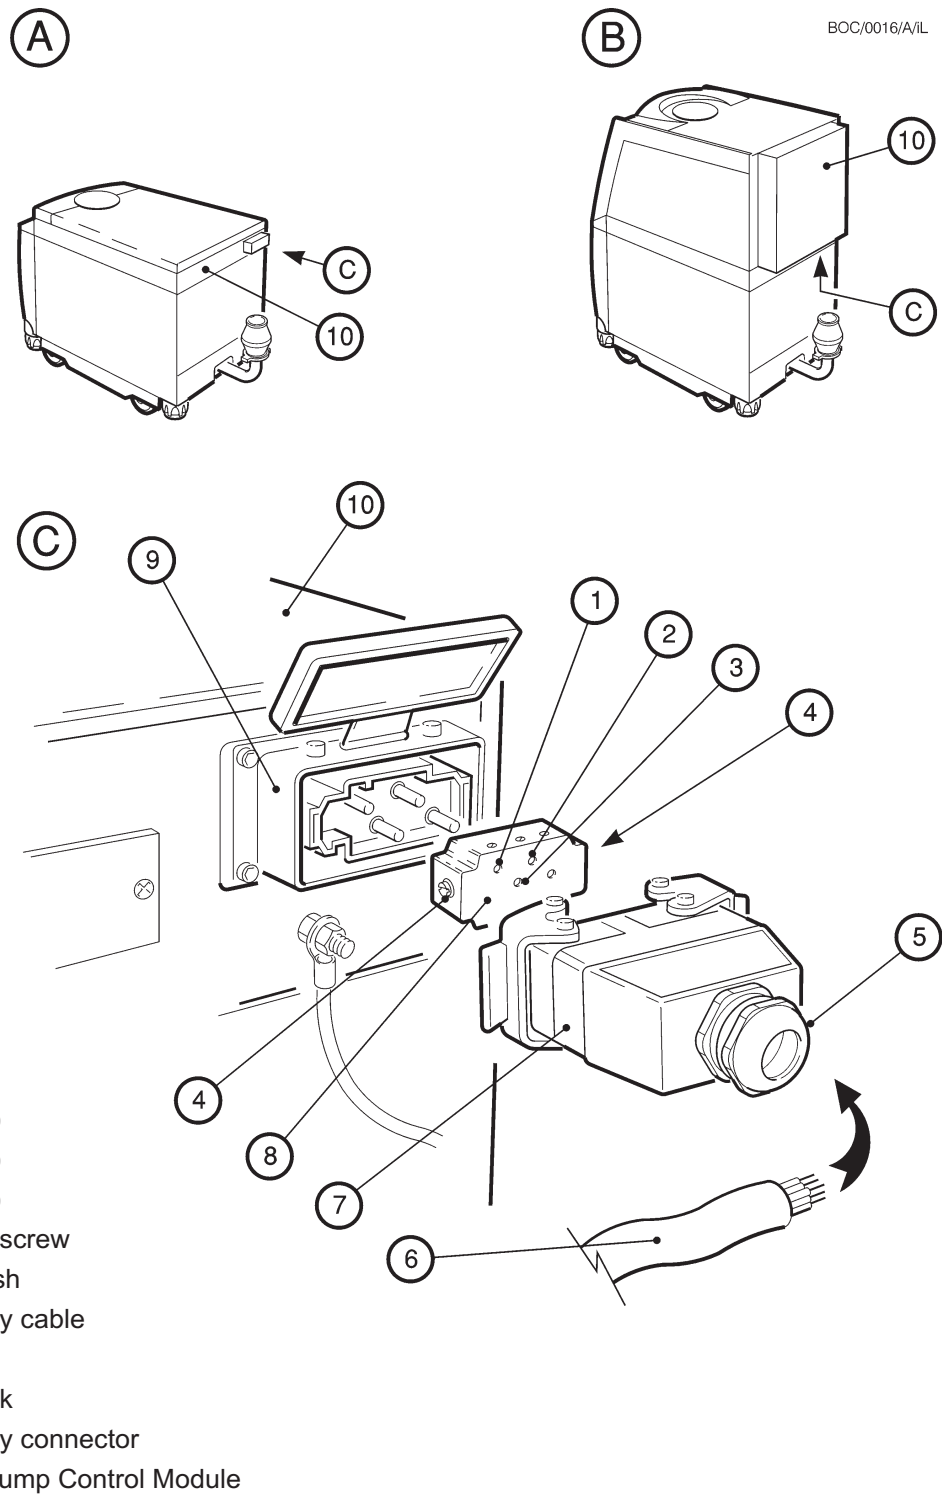

Figure 3-10 - Connect the electrical supply cable to the connector mating-half
1. Refer to Figure 3-10. Remove the connector block (8) from the hood (7) of the mating-half electrical supply connector.
5. Connect the cable phase wires to the pins of the connector block (8), as shown in Table 3-4.
6. Connect the earth (ground) wire of the cable to one of the two earth (ground) screws (4) on the side of the connector block (8).
7. Refit the connector block (8) into the connector hood assembly (7), and tighten the gland locking nut (5).
8. Fit the mating-half assembly to the electrical supply connector (9) on the Electrics and Pump Control Module (10).
Wire	Pin number (Figure 3-10 key)